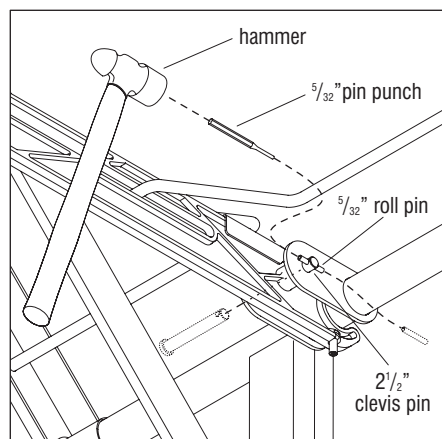

Figure 5
5. Using a  $\frac{5}{32}$ " pin punch and hammer, tap out the  $\frac{5}{32}$ " roll pin from the  $2\frac{1}{2}$ " clevis pin on the outer leg. Once the roll pin has been removed, slide the clevis pin out of the table latch and leg brackets (Figure 5).